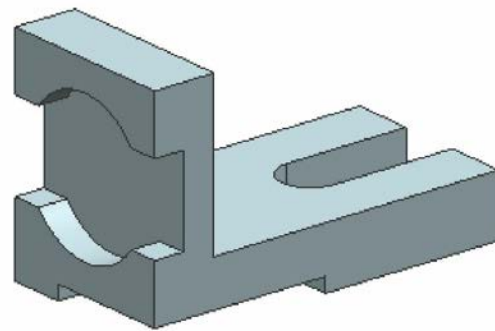

Figure 5-58 Model with the cut feature
6. Hide the sketch. The model with the cut feature is shown in Figure 5-58.